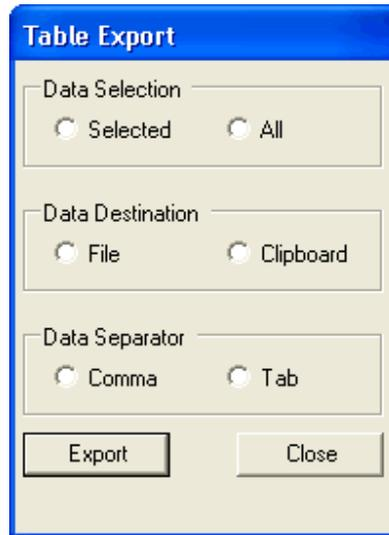

Figure 26 Export Data screen
- From the Data Display window, click the **EXPORT DATA** icon. The Table Export window opens (Figure 26).